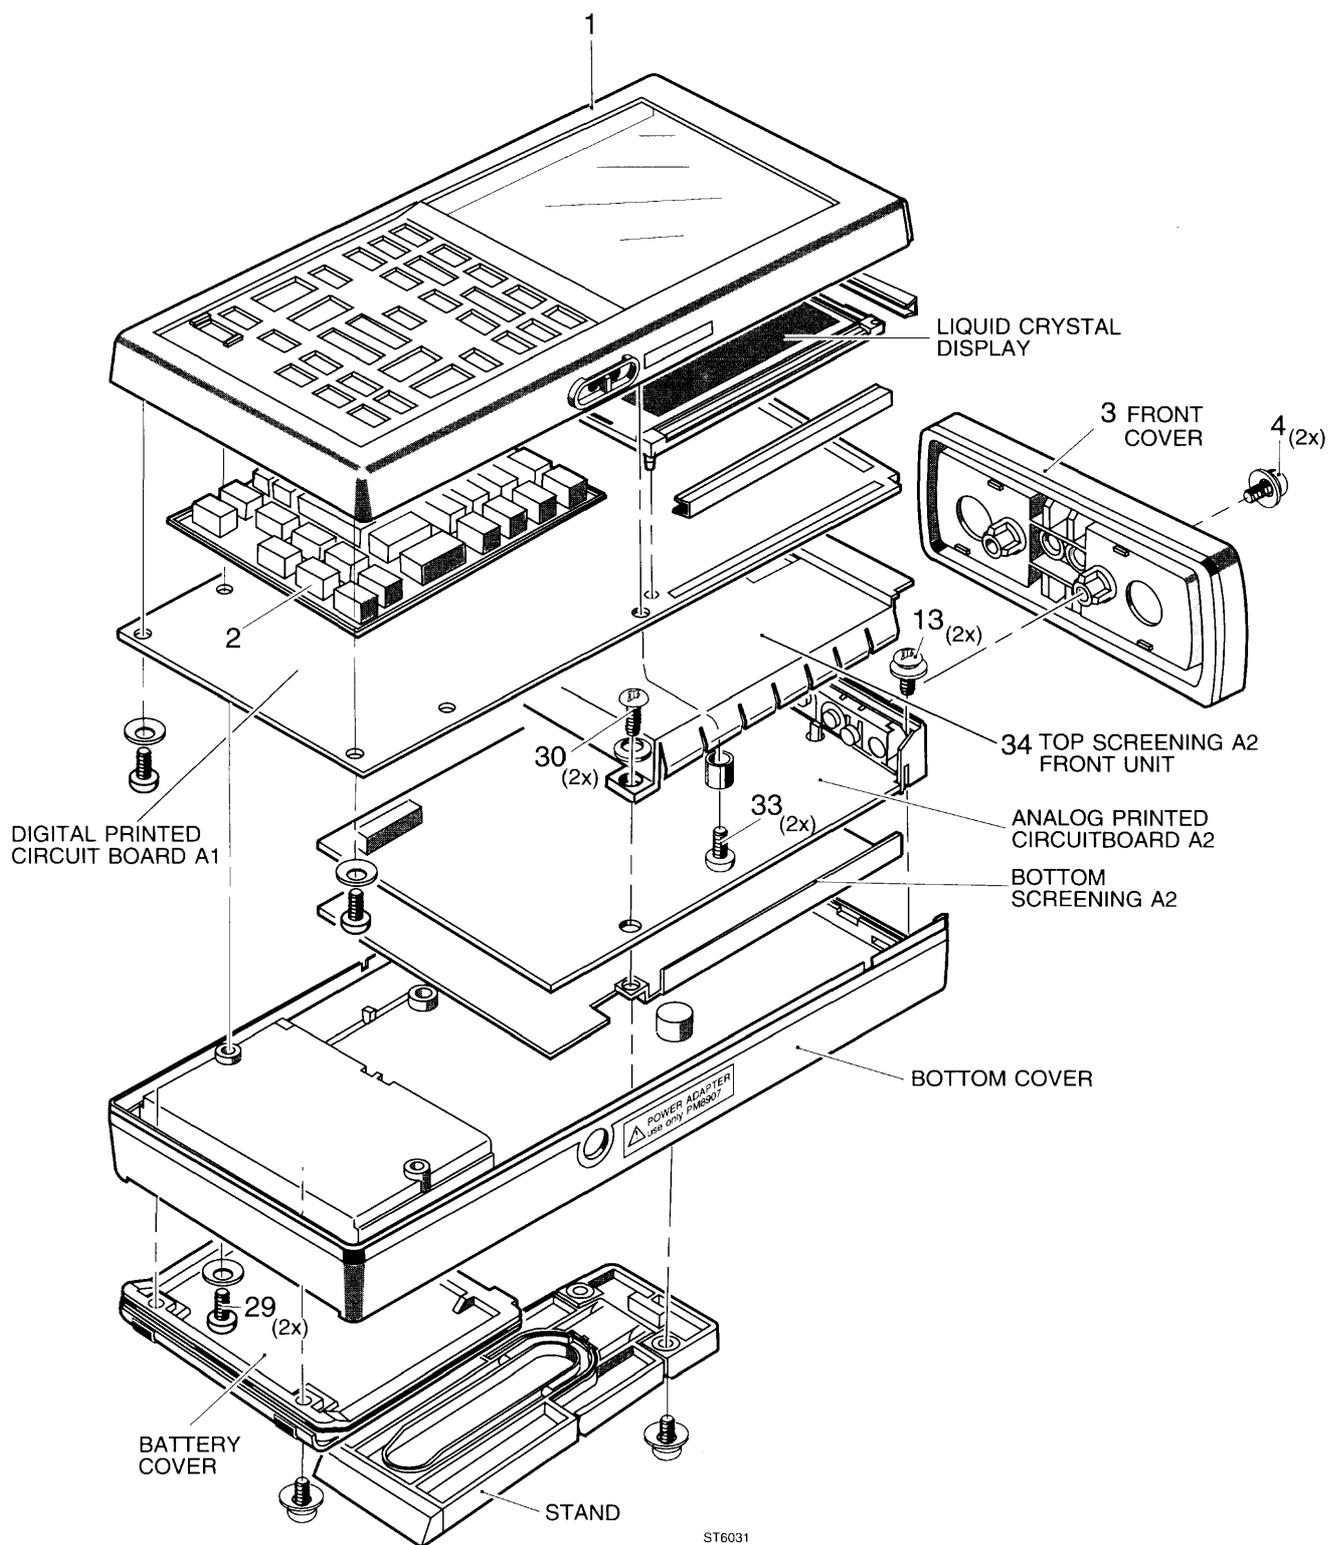

Figure 9.1 ScopeMeter final assembly
*Table 9.1 ScopeMeter final assembly. (See figure 9.1)*